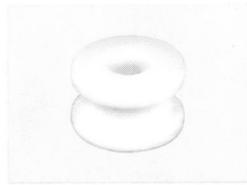

Fig. 1 - S Knob
- 1.03 The S knob (Fig. 1) is designed to accommodate one drop wire.